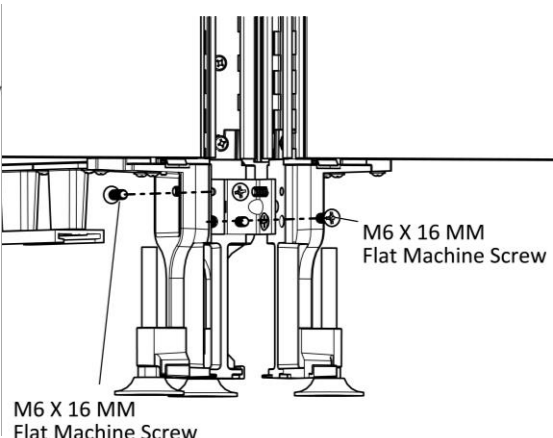

Figure 4
- Secure the base with two M6 X 16MM Flat Machine Screws, (Figure 4).